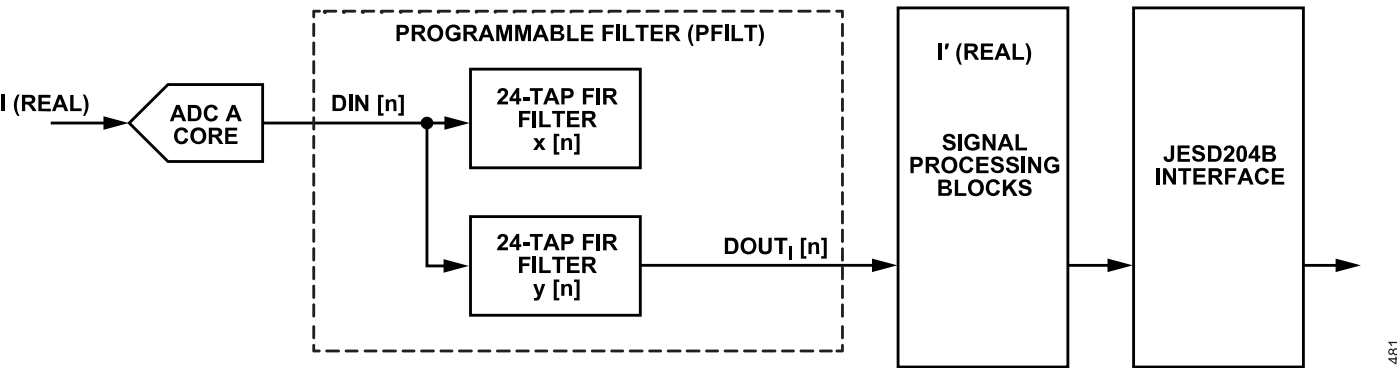

Figure 80. Real, Two Cascaded, 24-Tap Filter Configuration
- ▶ Real set of two cascaded 24-tap filters (see Figure 80)